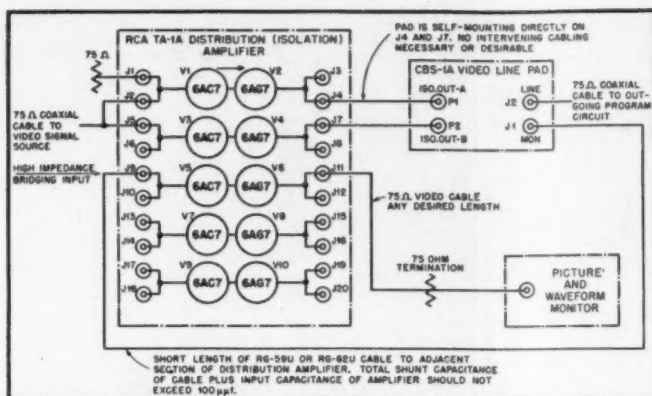

Fig. 3. Installation details for video line pad when employed in conjunction with a widely used type of distribution amplifier.
A schematic diagram of the CBS 1-A Video Line Pad is given in Fig. 2. The block diagram of Fig. 3 shows the connection of the pad to a distribution amplifier.
In Fig. 3, P_1 and P_2 of the pad mate with I_4 and I_7 , respectively, of the amplifier, thus paralleling these channels. At the lower range of video frequencies the effects of L_1 , C_1 , C_2 and C_3 of Fig. 2 upon operation are negligible and the circuit reduces to the simple resistance combination of R_1 , R_2 , R_3 , R_4 and R_5 .
R_s , in conjunction with the shunting effect of R_1 and the plate-circuit impedance of the parallel 6AG7 triode stages, V_1 and V_2 of Fig. 3, provides the desired net resistance of approximately 75 ohms as seen looking into the pad from the line feed-point J_1 .
The installation of the video line pad in a location where two distribution amplifier sections have previously been paralleled to provide a 75-ohm nominal source impedance is very simple. Figure 3 shows a typical arrangement in which the pad may be used to feed any 75-ohm outgoing line simultaneously with a remotely-located picture and waveform monitor.
In cases where the picture and waveform monitor is located within a few feet of the pad, the installation will be even simpler, in that the monitor may be bridged directly across the output of the pad, without the necessity for the intervening distribution amplifier section shown in Fig. 3.
Fig. 4 (left). Combined response-frequency characteristics of video line pad and distribution amplifier, when used in the arrangement shown in Fig. 3. Combined bandwidth is nearly as great as that of the distribution amplifier alone. Fig. 5 (right). Output-impedance versus frequency characteristics of video line pad when used in the arrangement of Fig. 3. For comparative purposes, there is also shown the output impedance of a commonly used arrangement of two parallel-connected distribution amplifiers shunted by a 75-ohm resistor. The output impedance of the line-pad arrangement is seen to be closer to the desired value of 75 ohms at nearly all frequencies.
In normal usage it should not be necessary to change any of the controls on the video line pad after initial alignment in a given installation. The following detailed alignment procedure is based upon the installation shown in Fig. 3, but is equally applicable to other arrangements.
2. Leaving the outputs paralleled through the line pad, but temporarily removing the jumper which normally parallels the two inputs, feed a 60-cps square-wave signal into one of the two paralleled distribution-amplifier sections (for example, feed the signal into J_1 of Fig. 3 with J_2 temporarily disconnected). Adjust the input square-wave amplitude at J_1 of the distribution amplifier to 2-volts, peak-to-peak. Adjust the gain and low-frequency-phasing controls of the active amplifier section until a 1-volt, tilt-free, signal is observed at the line output (J_2 of CBS 1-A pad).
Measurements upon a typical video line pad installation such as shown in Fig. 3 have shown that the frequency response to both line and monitor circuits can be made completely uniform up to 7 mc with a drooping characteristic above that frequency. Figure 4 shows a typical frequency response curve of the CBS 1-A pad in combination with an RCA type TA-1A Distribution Amplifier. Amplitude linearity characteristics of the distribution-amplifier-pad combination are essentially the same as those of the distribution amplifier alone.
The image orthicon studio camera is located in a small studio (shown in Fig. 2), complete with lighting equipment and the other facilities necessary for the production of small television shows. The camera is mounted on a movable dolly which allows the cameraman to adjust the elevation of the camera or to move it about the studio floor to obtain views from different angles and distances. An electronic viewfinder is incorporated in the camera, permitting the cameraman to view the picture being televised. The camera control and monitor are located in the control room in the extreme right console section as shown in Fig. 3. The signal source has been very useful—particularly for the presentation of demonstration programs to customers, and for the investigation of new camera circuits and studio lighting techniques.
makes it possible to feed one film camera with any one, or with any combination of three optical images without changing the physical location of either the projectors or the camera. The three picture sources consist of a 35-mm film projector, a 16-mm film projector, and a 2" x 2" slide projector for transparencies. The control rack shown in the background of Fig. 4 contains a video monitor, a projector control panel, and a power supply for the pulsed light source on the 35-mm projector. The video monitor may be switched by the projectionist from the film-camera output to any one of three predetermined signals for video cueing purposes. The projector control panel provides facilities for remote starting or stopping of either film projector or for effecting an optical changeover between projectors. The slide projector lamp may be turned on or off or its brightness controlled from this panel also. The film-camera control and monitor are in the second console section from the right in Fig. 3. These film facilities permit the testing of new ideas and improvements on equipment identical with that in general use. They also make possible experimentation with new film-camera tubes, and provide film pictures for use in demonstration programs for customers.